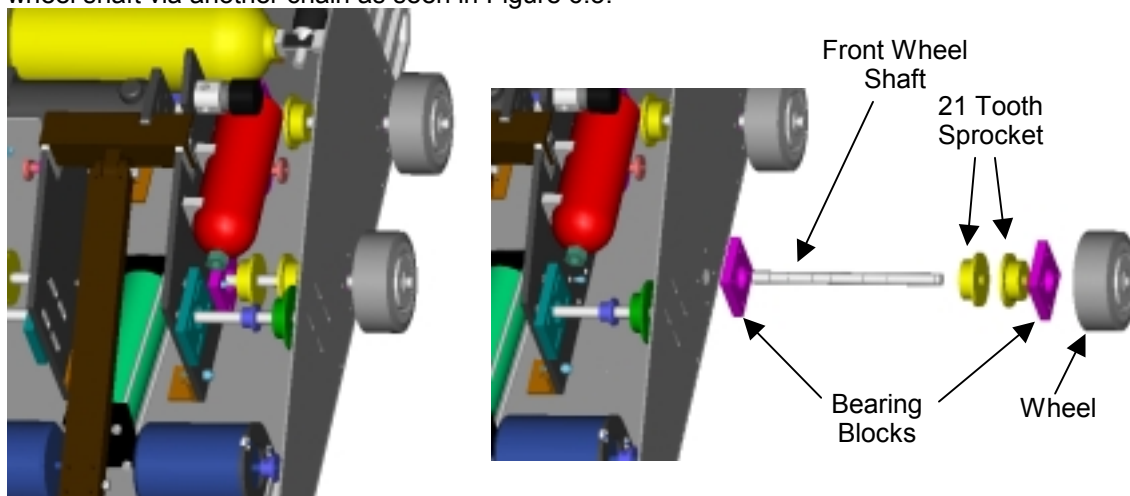

Figure 6.5 – Front Wheel Shaft
The front wheel shaft holds and spins the front wheel. The shaft consists of two 21 tooth sprockets attached to the shaft with a key, set screws and E-rings. The wheel is attached to the shaft with a key and E-rings. The shaft transmits the power from the motor to the front wheel directly and to the rear wheel shaft via another chain as seen in Figure 6.5.
2. Insert a key (BOM #1.7) into the wheel key slot as shown in Figure 6.5.
3. Place the wheel on the shaft as seen in Figure 6.5. It may be necessary to use a hammer or press.
6. Place the first sprocket on the shaft as seen in Figure 6.5.